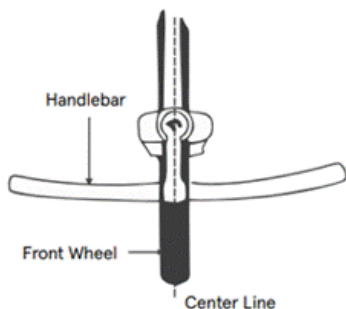

Fig. 4
1. Loosen the stem handlebar hex bolts to remove the face plate (See Fig 4).